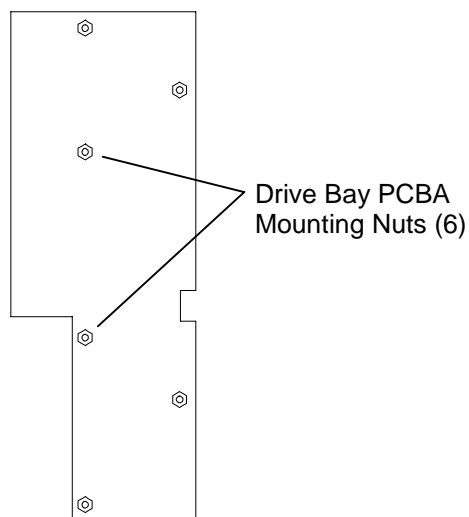

Figure 7-62 Drive Bay PCBA Mounting Nuts
10. Use a 1/4-inch nutdriver to remove the six PCBA mounting nuts and washers, then lift the PCBA off the mounting studs of the Bracket (Figure 7-62). Note that the spacers behind the PCBA come loose when the PCBA is removed.
4. Install a washer onto a mounting stud, then with a 1/4-inch nutdriver thread a PCBA mounting nut onto the mounting stud. Install the remaining PCBA Mounting screws the same way (Figure 7-62).
8. Use a 1/4-inch nutdriver to remove the six PCBA mounting nuts and washers, then lift the PCBA off the mounting studs of the Bracket (Figure 7-62). Note that the spacers behind the PCBA come loose when the PCBA is removed.